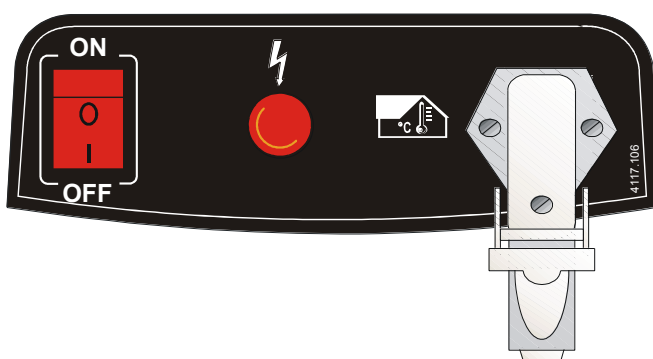
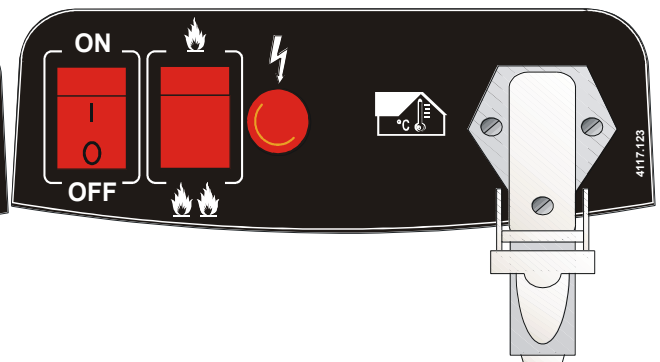

Figure 28 - XL 9ERM control panel.
Figure 29 - XL 9SRM control panel.
2. Check whether the power mains voltage light on the control panel is on (Fig. 28 and Fig. 29).